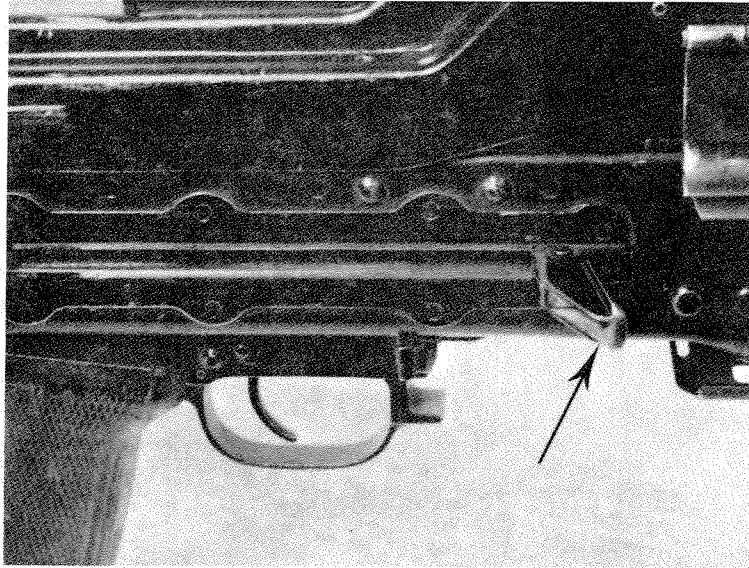

Figure 2-8. Charging handle in forward position for firing.
a. Pull the charging handle, located on the right side of the weapon, completely to the rear. This will extract the first round of ammunition from the belt. Release the charging handle allowing it to go forward unassisted. This action chambers the first round. The PKM is now ready for firing (fig. 2-8).